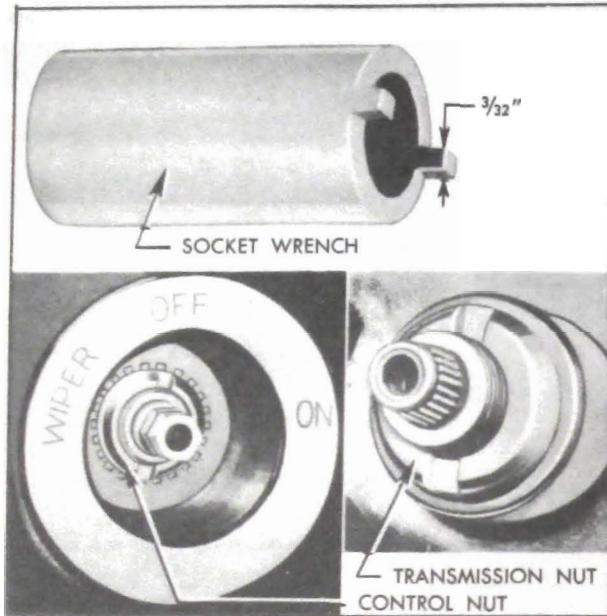

Figure 13-13—Control and Transmission Nut Socket Wrench
A special socket wrench is required for removing the windshield wiper control and transmission nuts for replacement of these units. A suitable tool may be prepared locally by altering a packing gland nut socket (Snap-On Tools No. TR-3 or J. H. Williams No. NMR-8) as shown in figure 13-13. The $\frac{1}{8}$ " prongs are filed to a width of $\frac{3}{32}$ ".
4. Using special socket wrench (fig. 13-13) remove control nut and internal-tooth lock-washer then remove control from instrument panel. Disconnect windshield washer hoses if attached to control.
3. Remove transmission nut using special socket wrench shown in figure 13-13. Remove windshield washer nut and nozzle, then remove escutcheon.